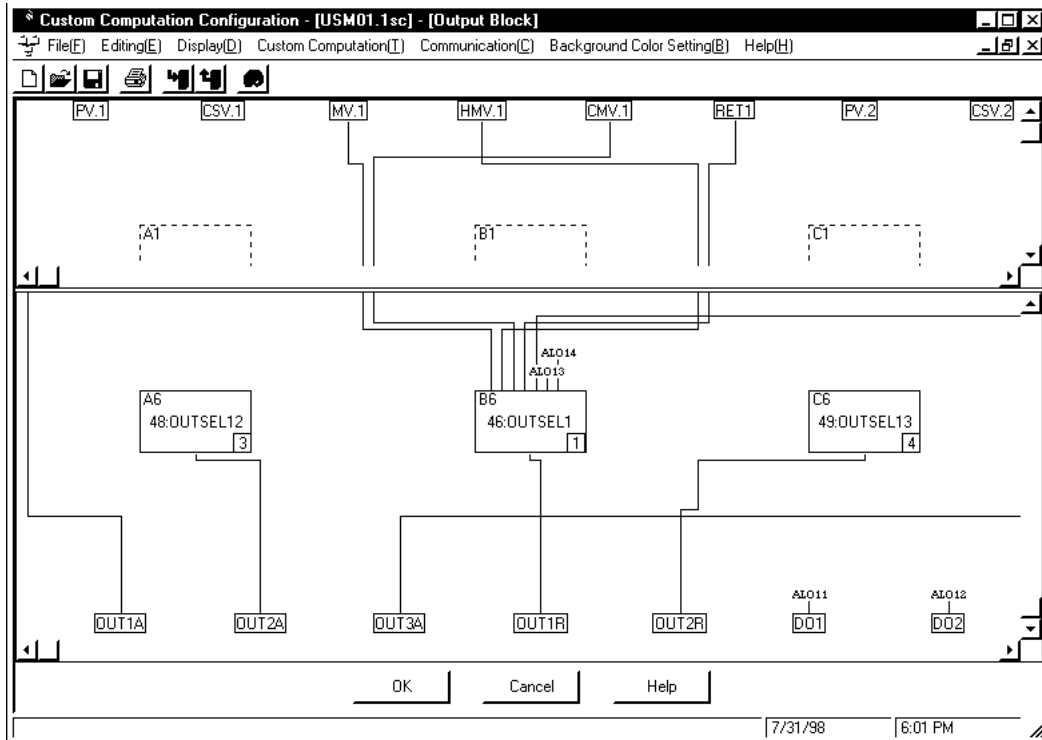

Figure 12.7.3 [Output Block] Dialog Box
- ① In the [Custom Computation Configuration Menu] dialog box (Figure 12.0.2), click <Output Block>. The [Output Block] dialog box (Figure 12.7.3) appears.